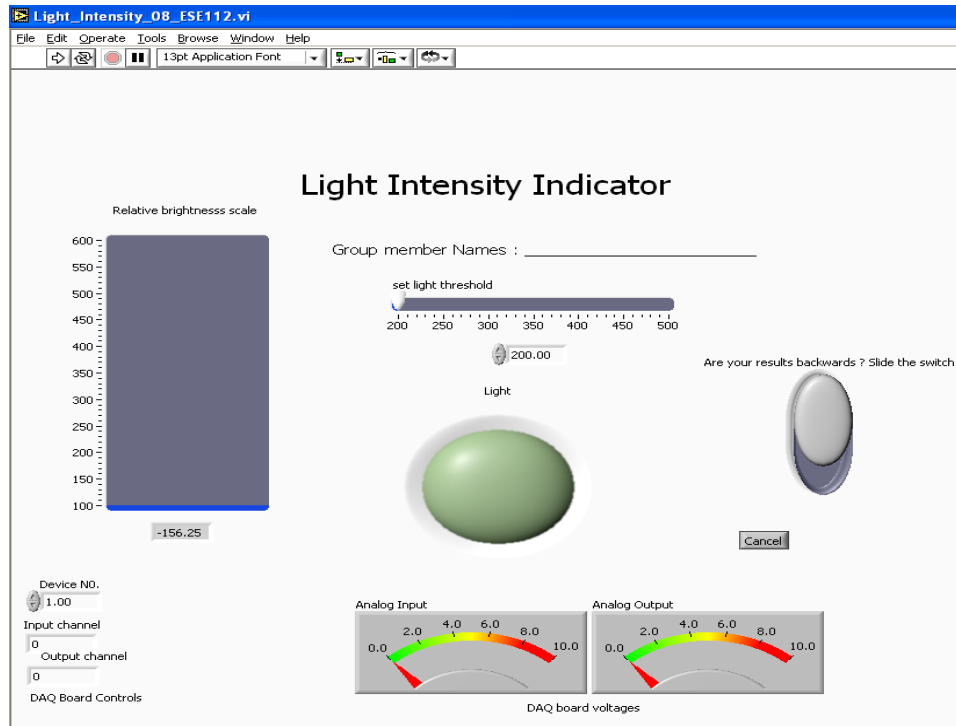

Figure 16: LabVIEW software front panel
- From course website, download **Light_Intensity_08_Final.vi file**. Save this file and open it with LabVIEW 6.1 software (note this file will not work with newer version 8.6). Once you open the file, you should see the Light Intensity Indicator program as shown below in Figure 16.